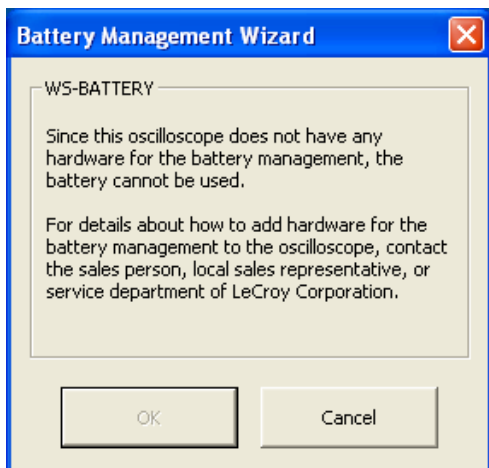

Figure 6c. Dialog Box that Appears when the Hardware Is Not Applicable to the Battery.
- When the dialog box shown in Figure 6c appears, the BATTERY PACK cannot be used in this status since the oscilloscope does not have any hardware for the battery management. Click [Cancel]. For details about hardware for the battery management of the oscilloscope, contact the sales person or service department of LeCroy Corporation.